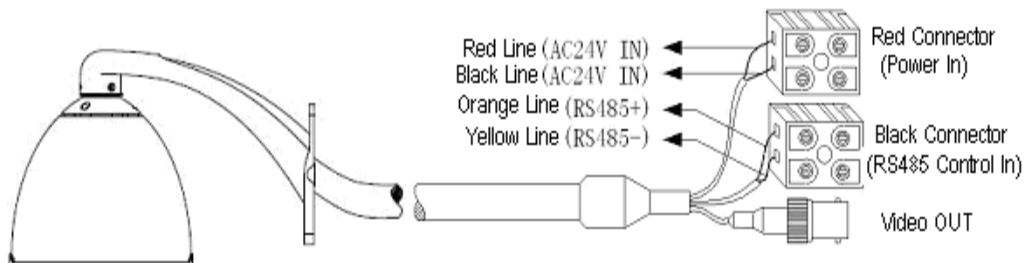

Figure 8
9. Connect the signal cable of the system as Figure 8.